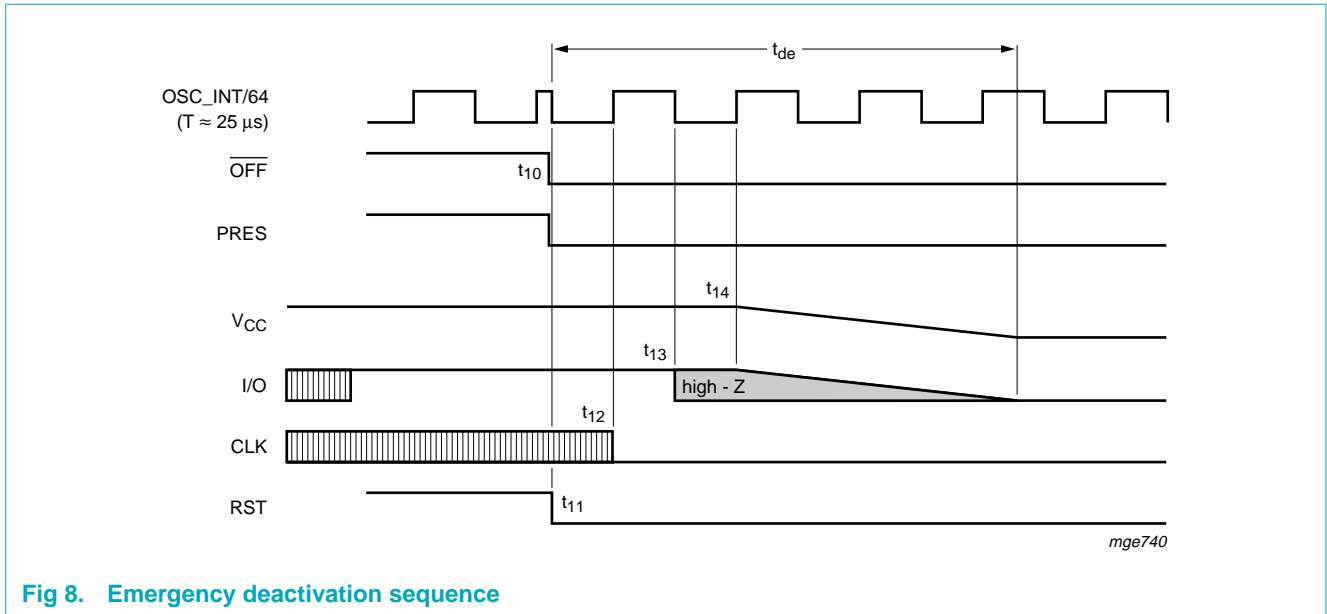

Fig 8. Emergency deactivation sequence
2.  $\overline{\text{CMDVCC}}$  LOW: (within a card session) then,  $\overline{\text{OFF}}$  falls LOW if the card is extracted, or if a short-circuit has occurred on  $V_{\text{CC}}$ , or if the temperature on the IC has become too high. As soon as the fault is detected, an emergency deactivation is automatically performed (see Figure 8).